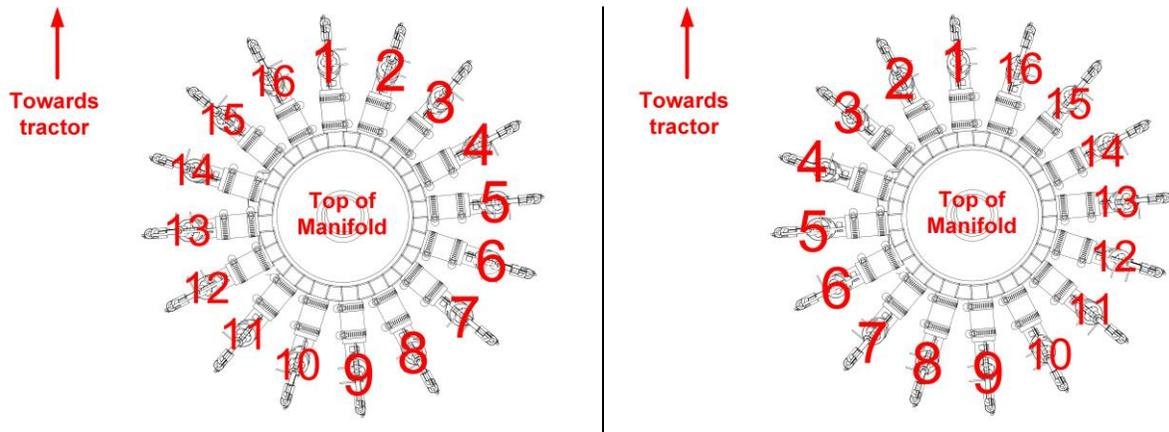

Figure 26: Default/clockwise order (left); counterclockwise order (right)
9. **Change run direction.** In manifold view, ports are displayed by default in clockwise order around the manifold, as shown in Figure 26. If you installed the sensors in counterclockwise order around the manifold, you can change the way the ports are displayed in the app. Next to Run Direction, tap the clockwise  or counterclockwise  symbol to change the run direction.